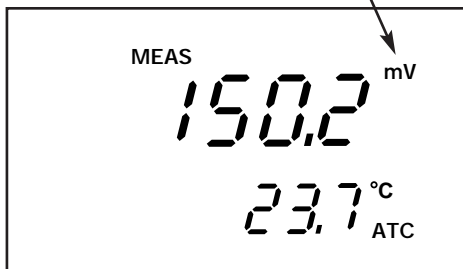

Figure 23
1. Make sure the meter is **ON** and if necessary, press the **MODE** key to select mV mode. The mV indicator appears in the upper right hand corner of the display. —See Figure 23.